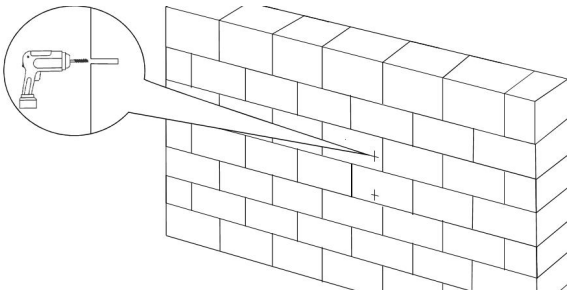

Fig. 3: Assembly
Step 2: Mark and drill 2 holes to correspond with the holes in the wall bracket (Fig. 3).